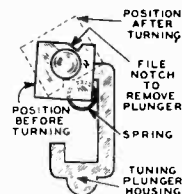

Fig. 14—Tuning Plunger Spring Retainer
(115) File a V shaped notch in the rectangular spring retainer at the back of the tuning plunger housing—See Fig. 14. The location of the notch is illustrated. Then turn the spring retainer to the position shown, in this illustration with the notch at the upper left corner of the housing. When this is done the spring in the housing will spring out. Then push the plunger out from the front of the panel.